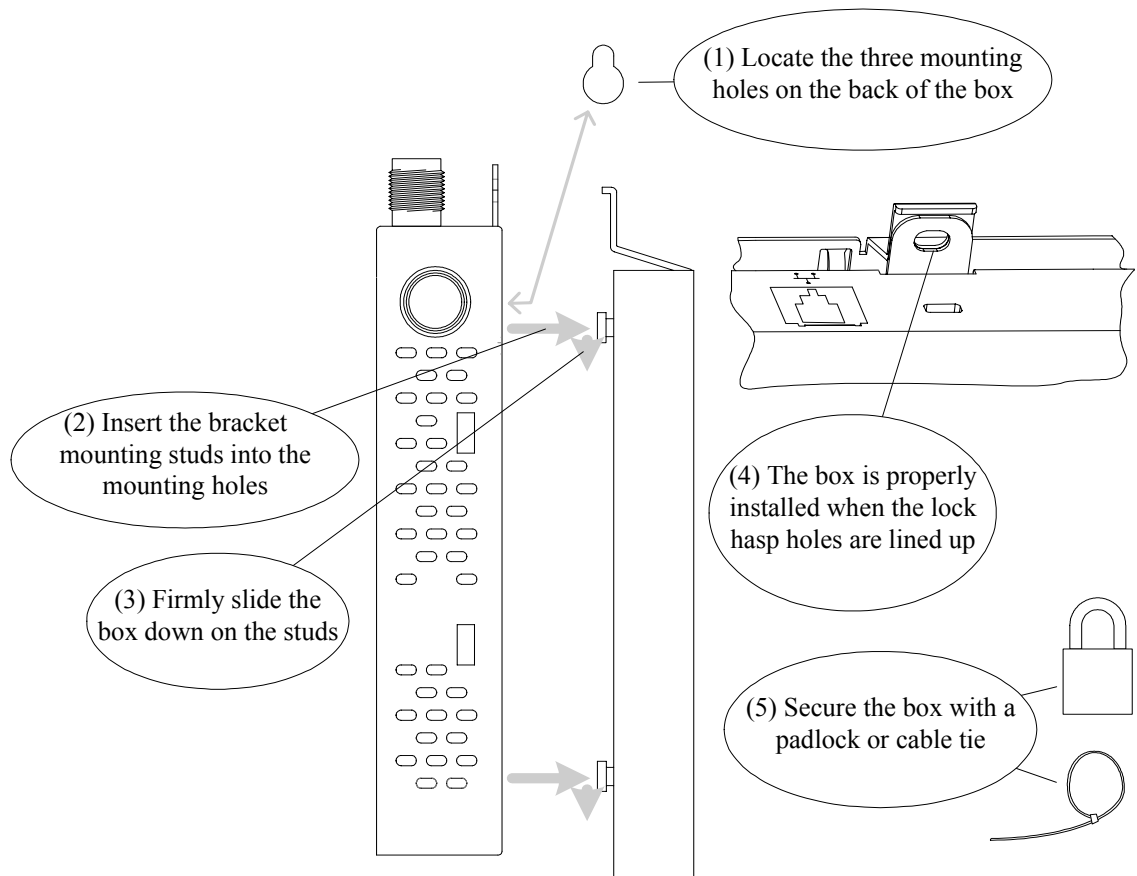
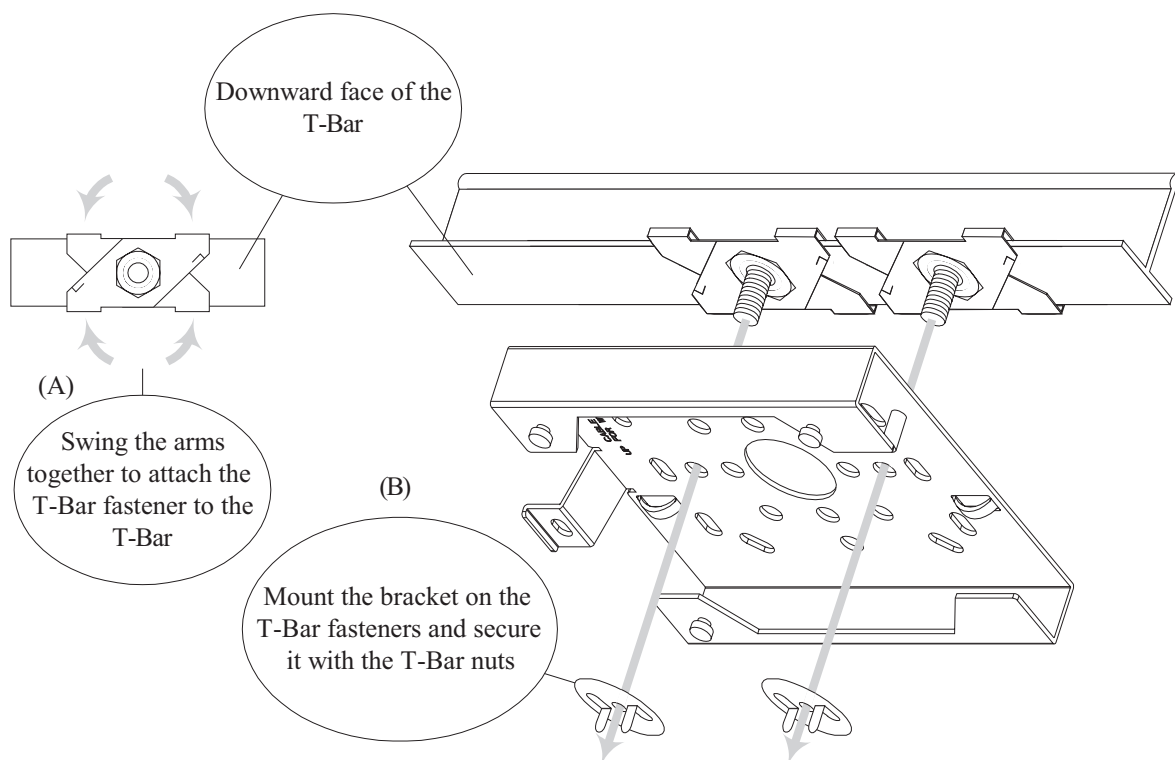
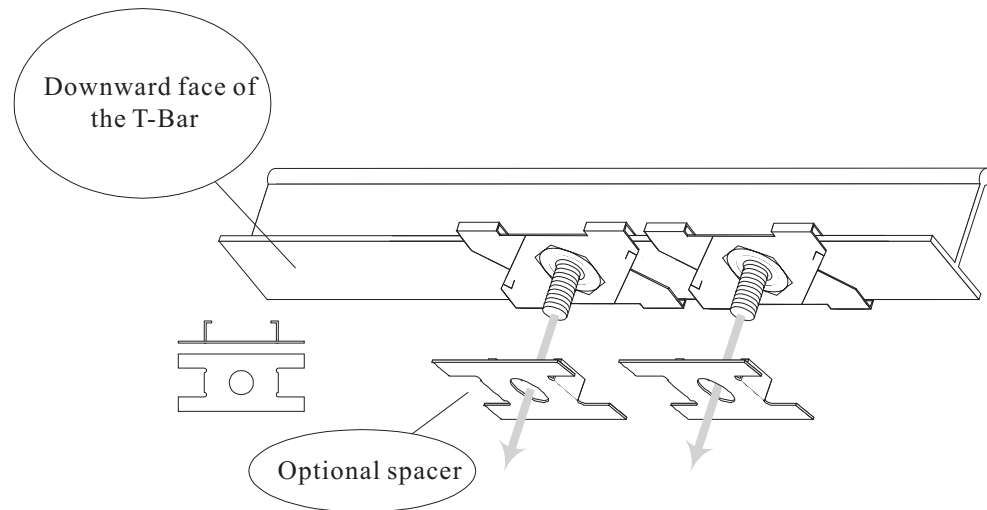

Figure 5: Mounting The Wireless Port On The Universal Mounting Bracket
Figure 6: Installation On A Hanging Ceiling
Figure 7: Installation of Optional Spacer
Figure 6 shows the rear side of the integrated antenna model of the Altitude 300-2i™. The Ethernet cable is plugged into the RJ45 jack. It supplies both network connectivity and power to the unit. The Altitude 300-2i™ can be locked by either a standard computer cable lock inserted in to the cable lock hole or a padlock in the tab provided for it.
- 2 Mount the Altitude 300-2™ on the universal mounting bracket. The Altitude 300-2™ has three slotted mounting holes on the back of the unit. The mounting studs on the universal mounting bracket fit into the slotted mounting holes. The unit slides all the way forward into these holes. The lock hasp hole on the Altitude 300-2™ should line up with the lock hasp hole on the universal mounting bracket when the unit is slid all the way forward, see Figure 5: Mounting the Wireless Port on the Universal Mounting Bracket on page 23.
- 3 Lock and secure the Altitude 300-2™. The Altitude 300-2™ and the universal mounting bracket are designed to use a Master Lock 120T or similarly sized padlock to secure the wireless port from theft or from coming off the bracket, see Figure 5: Mounting The Wireless Port on the Universal Mounting Bracket on page 23. Wall and ceiling installations skip step 4.
The T-Bar fasteners included with the wireless port are designed to connect to a range of hanging ceiling T-Bar sizes. Following the steps in Figure 6, spread the T-Bar fastener apart, place it on the T-Bar and squeeze it together until it is firmly seated on the T-Bar. With the two T-Bar fasteners in place and properly spaced to match the brackets T-Bar fastener holes, determine if spacers are needed. The T-Bar fastener spacers are designed for hanging ceilings where the ceiling tiles' bottom surface is below the T-Bar. If this is the case, install the spacer as show in the diagram. The spacer allows the universal mounting bracket to sit below the bottom surface of the ceiling tile.
The universal mounting bracket has mounting holes that allow it to be installed inline with the T-Bar as shown in Figure 6 or at right angles to the T-Bar.
Some hanging ceilings have tiles with bottom surfaces that hang below the bottom of the T-Bar. For these ceilings spacers are provided. The spacers go between the T-Bar fasteners and the universal mounting bracket as shown in Figure 7.
Altitude 300-2i™. Use the bracket as a template to mark the holes on the ceiling. For each of the four plastic anchors supplied with the unit, drill 4.8 mm (3/16") pilot holes, 24.5 mm (1") deep. If wall anchors are not being used drill 3.2 mm (1/8") holes, 1 inch (25.4 mm) deep. Install the bracket using the screws from the kit. The Altitude 300-2™ is designed to slip into the mounting slots on the bracket and slide all the way to the front, see Figure 5: Mounting the Wireless Port on the Universal Mounting Bracket on page 23. The unit should then be secured with either a padlock (not supplied) or a cable tie (supplied). The installer may now follow the standard instructions for connecting the Ethernet cable, antenna shrouds for integrated antennas, and the plastic cover.
The Altitude 300-2™ may be suspended from the T-Bars of a hanging ceiling. The mounting kit contains two T-Bar fasteners that can be adjusted for a variety of T-Bar widths. There are a number of round holes on the bracket that can be used for the T-Bar fasteners; use two that are convenient for the required orientation on the ceiling. The bracket is oriented on the T-Bar with so that the antennas face the desired direction. Use the bracket to lightly mark where the T-Bar fasteners should be placed. Install the two T-Bar fasteners on the T-Bar, see Figure 6: Installation on A Hanging Ceiling on page 24. Some ceilings have ceiling tiles that hang down below the bottom of the T-Bar. Spacers are provided with the kit for these types of tiles. The spacers go between the T-Bar fasteners and the bracket with the spacer's face against the bracket, see Figure 7: Installation of Optional Spacer on page 25. Mount the bracket and make sure fasteners are tight and the bracket is secure. The Altitude 300-2™ is now slipped into the bracket's mounting slots and slid all the way to the back, see Figure 5: Mounting the Wireless Port on the Universal Mounting Bracket on page 23. The unit should then be secured with either a padlock (not supplied) or a cable tie (supplied). The installer may now follow the standard instructions for connecting the Ethernet cable, antenna shrouds for integrated antennas, and the plastic cover.
The Altitude 300-2™ can be mounted on a vertical surface using the universal mounting bracket supplied. The vertical position should be with the Ethernet cable and lock hasp pointing up. Select the location for the unit and use the bracket as a template to mark the holes in the ceiling. For each of the four plastic anchors supplied with the unit, drill 4.8 mm (3/16") pilot holes, 24.5 mm (1") deep. If wall anchors are not being used drill 3.2 mm (1/8") holes, 1 inch (25.4 mm) deep. Install the bracket using the screws from the kit. The Altitude 300-2™ is designed to slip into the mounting slots on the bracket and slide all the way down, see Figure 5: Mounting the Wireless Port on the Universal Mounting Bracket on page 23. The unit should then be secured with either a